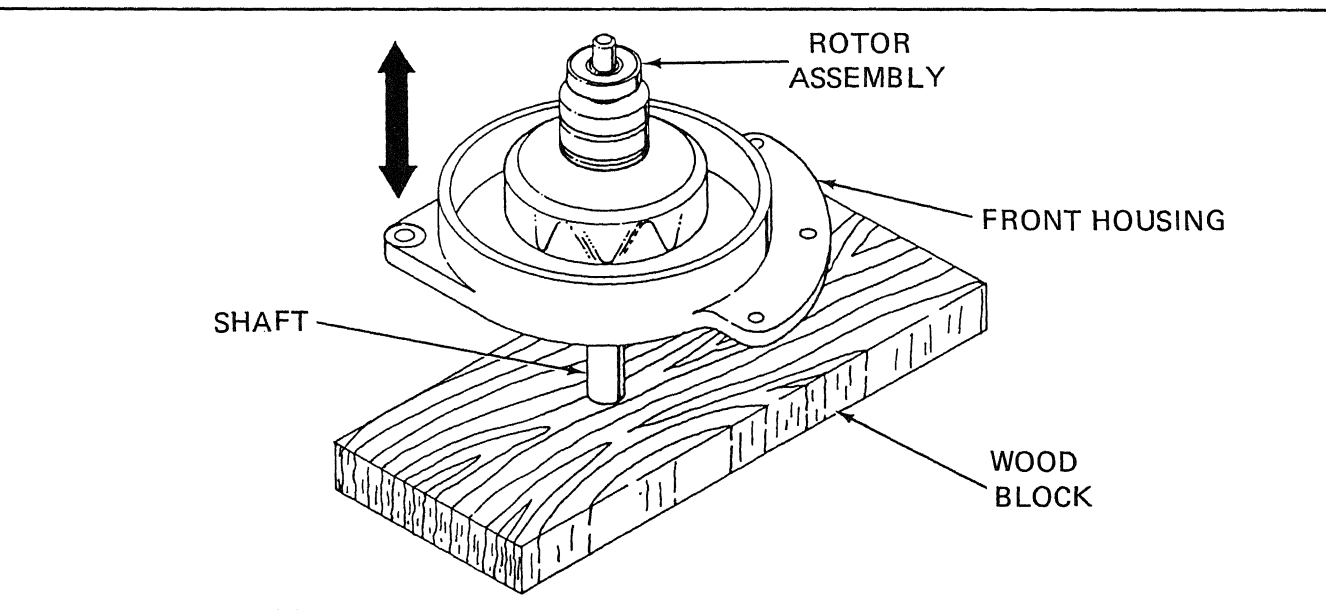

Figure 5-28.15. Housing Removal
- (14) Separate the front housing from the rotor by holding of the front housing and tapping the assembly on a wood block as shown in Figure 5-28.15.